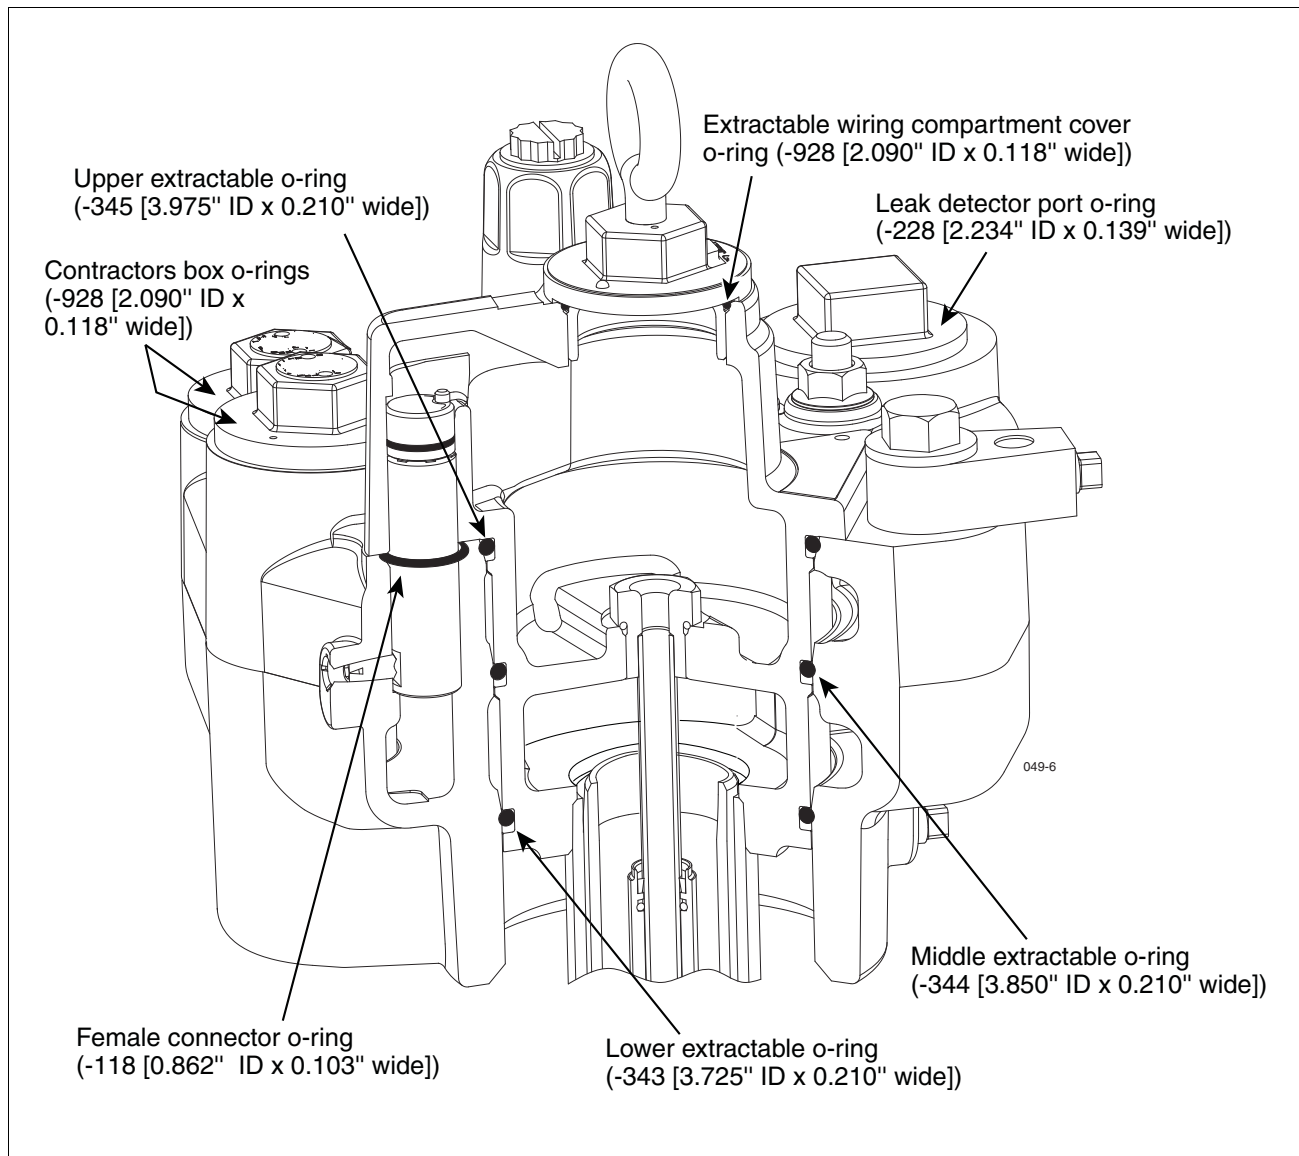

Figure 29. Locating Packer And Manifold O-rings
12. Get the three extractable O-ring seals (3.975" ID x 0.210" wide [upper], 3.850" ID x 0.210" wide [middle], and 3.725" x 0.210" wide [lower]) from the Hardware/Seal Kit. The three O-rings are very close in size so take extra care to distinguish each one before replacing them in the extractable. Lubricate each O-ring with petroleum jelly and then install them in their assigned grooves in the extractable (see Figure 29).
13. Remove the manifold's female connector's O-ring (see Figure 29). Get a 0.862" ID x 0.103" wide O-ring from the Hardware/Seal Kit and lubricate it with petroleum jelly. Slide the O-ring over the female connector and push it down into its groove.
21. Get the three extractable O-ring seals (3.975" ID x 0.210" wide [upper], 3.850" ID x 0.210" wide [middle], and 3.725" x 0.210" wide [lower]) from the Hardware/Seal Kit. The three O-rings are very close in size so take extra care to distinguish each one before replacing them in the extractable. Lubricate each O-ring with petroleum jelly and then install them in their assigned grooves in the extractable - see Figure 29 on page 33.
22. Remove the manifold's female connector's O-ring - see Figure 29 on page 33. Get a 0.862" ID x 0.103" wide O-ring from the Hardware/Seal Kit and lubricate it with petroleum jelly. Slide the O-ring over the female connector and push it down into its groove.